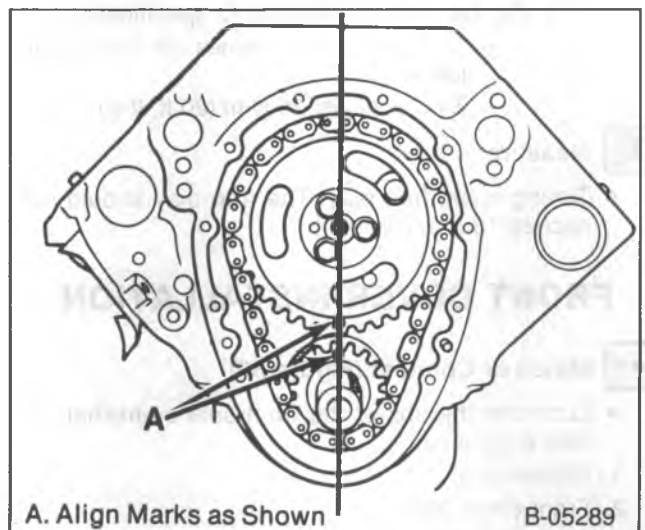

Figure 59—Timing Marks
- Align the timing marks on the camshaft sprocket and crankshaft sprocket (figure 59).